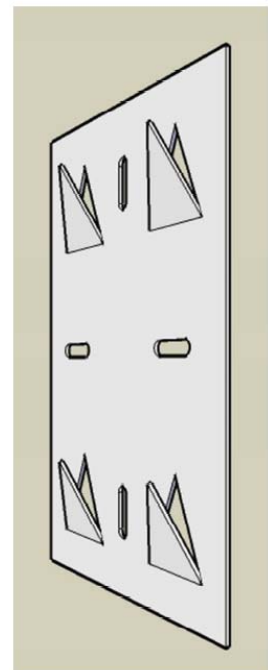

Fig 7 Impale
Now that you've located the exact recommended placement for each panel, you can move on to the actual installation. Absorbers and Abfuser Strips are hung from the walls using the supplied impale clips (fig 7). There are 3 per Absorber, 2 per Abfuser Strip, and 4 per Corner Trap. Please contact MSR immediately if any of the impale clips are missing.
- Attach two impale clips to the top brace and two to the bottom using screws. The spiky flanges should point toward the ceiling as shown in fig 7. The position of the impale clips along the brace does not really matter.